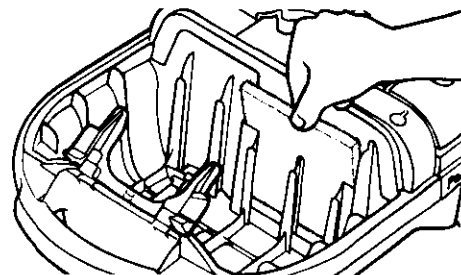
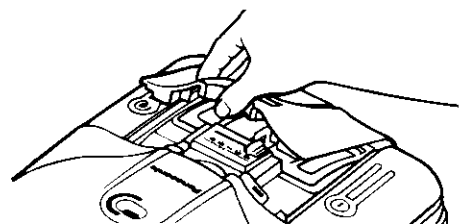

Fig. 1
Fig. 2
The vacuum cleaner has two filters, one central filter installed in the dust bag compartment that protects the motor (Fig. 1). The other, clean air filter (electrostatic), is installed in the exhaust cover situated in the top rear side of your cleaner, and it retains any small dust particles which may be present in the exhausted air (Fig. 2).
**CENTRAL FILTER (Fig. 1) Part no. AMC8GF03D1000**
**CLEAN AIR FILTER (Fig. 2, Fig. 3)**
To change the clean air filter, lift up the exhaust cover and remove the filter support as shown in Fig. 2 and Fig. 3.